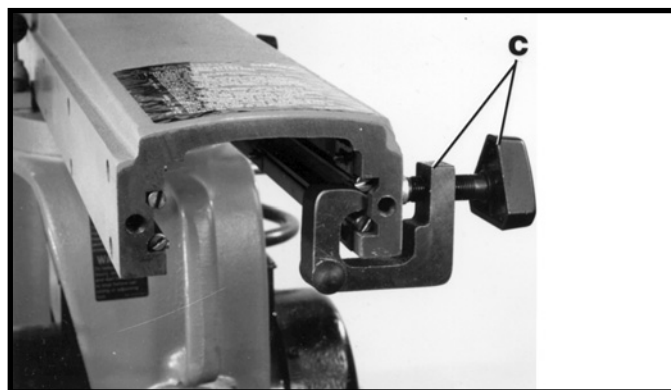

Fig. 10
3. Assemble cross-cut stop (C) to the track-arm (Fig. 10).